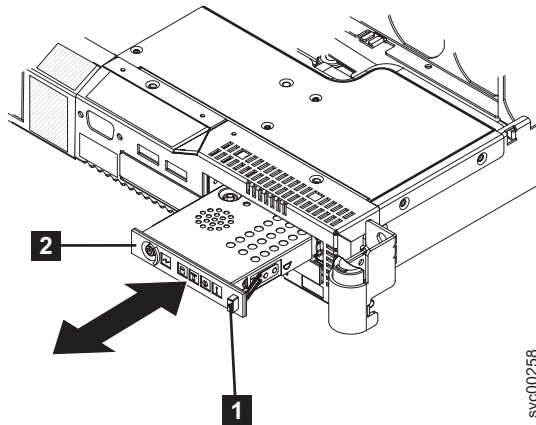

Figure 208. Releasing the light path assembly
9. Release the light path assembly **2**, using the release button (**1** in Figure 208 on page 538) on the front, and pull forward until it locks in place.